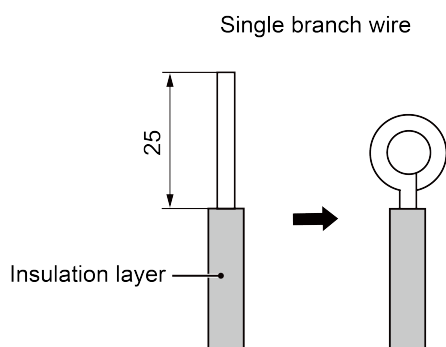

Fig.4.18
(1) The connection of wire (as shown in Fig.4.18)